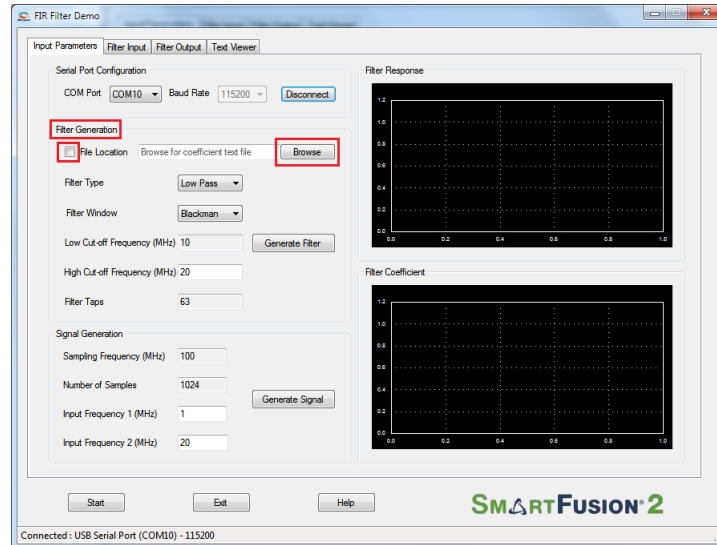

Figure 1-8 • Filter Generation - 1
1. Generate the coefficients using MATLAB or any similar tool and save it as a text file (Refer "Coefficient Text File Format" for the format of the text file). The GUI can be used to browse and load this file as shown in Figure 1-8.